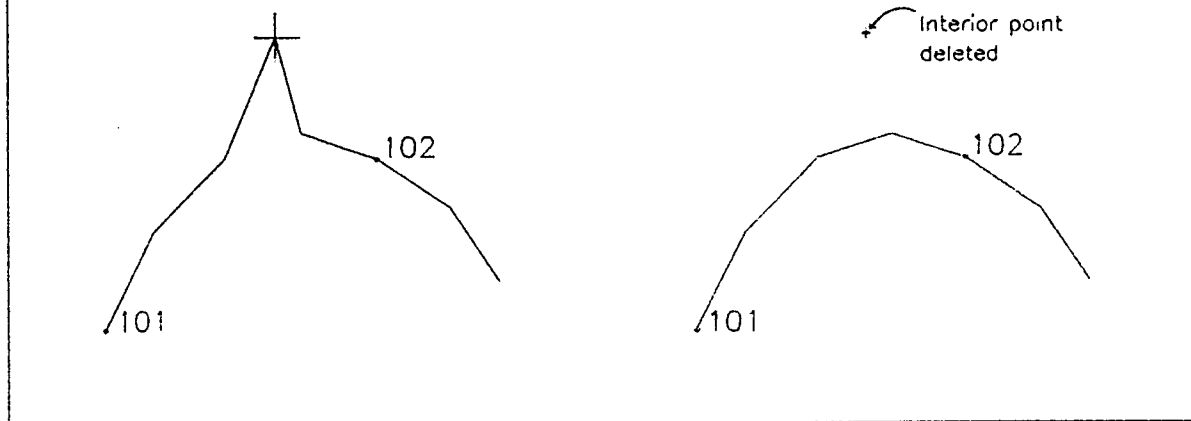

Figure 2. The DELETE Command
To delete one or more interior points on an arc between node1 and node2 or on island type arc from node1 to node1. Correct selection of the arc is as in CODE for multiple arcs between the nodes. The interior point to be deleted as selected by cursor. The control character (1st typed) for the cursor selection can indicate the action of existing the command (E) or indicate the last point to be deleted (L). Other characters will cycle and delete other points. After entering the DELETE command, followed by the two node numbers, you have to position the cross hair at the desired interior point to be deleted (Figure 2). If the cross hair is not positioned at the location of an interior point, the DELETE command will delete the interior point that is closest to the cross hair.